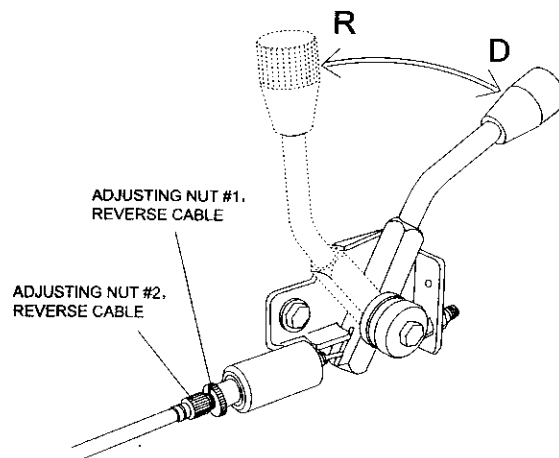

Figure 4
- Push the reverse lever forward to the "D" position for the kart to move forward, pull the lever back to "R" for the kart to move backward. (See Fig.4)